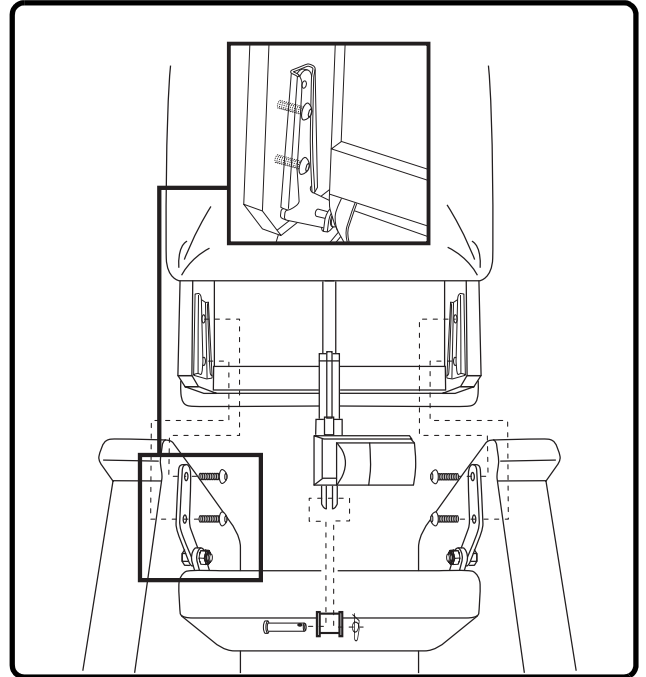

Figure 1. Lift Chair Assembly
3. With the pillow side of the chair-back and the lift chair armrests both facing the same forward position, slide the bracket of the chair-back over the bracket on the chair base, aligning the holes in both brackets. Insert the 4 bolts into the bracket holes and tighten with the provided hex key. **See figure 1.**